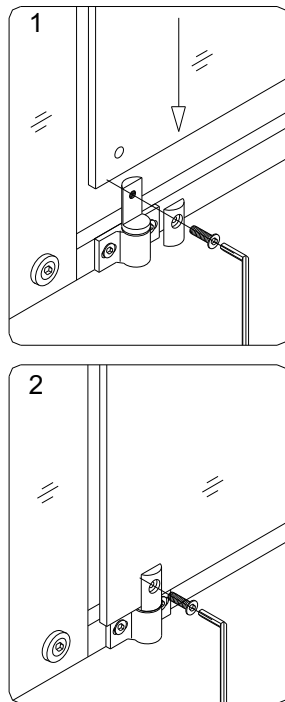

Fig. 19
12. Remove the back fastener from the pivot assemblies. Set the **Glass door (04)** so the holes are aligned. Make sure the rubber gaskets are in between the glass and the metal parts. Secure the back fastener with the provided bolt. Repeat the same steps for the second pivot assembly. Install the **Handle (39)** onto the glass door. See fig. 19&20 for details.